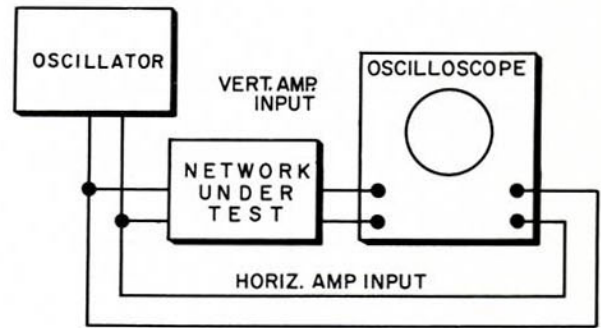

Figure 1.
a. Connect instruments as shown in figure 1 and place mask over face of crt. Adjust signal source to the desired frequency and to any convenient signal amplitude. Position mask with lines BB' and AA' superimposed over x and y axis respectively that are marked on the oscilloscope graticule.